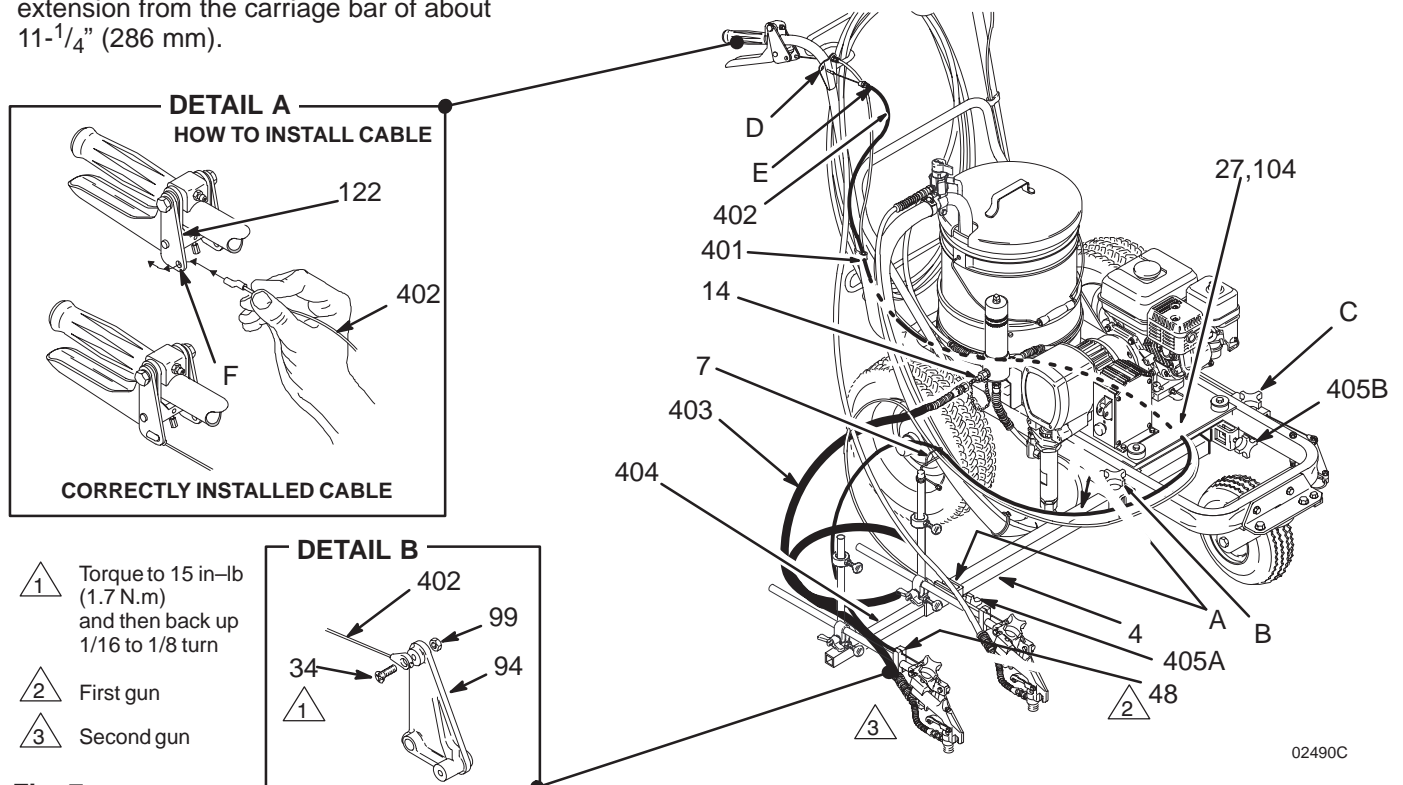

Fig. 7
NOTE: Fig. 7 represents the installation at Step 3.
1. Disengage the trigger cable from the block (48) of the unit's existing gun. See page 21. Engage the gun's trigger safety latch.
2. Loosen the carriage clamps (B, C). Slide the carriage bar (4) off the cart.
3. For mounting the second gun bar on the pump side of the cart: Slide a clamp (405A) onto the carriage bar (4). Slide the carriage bar through the pump-side carriage clamp (B) and into the center of the cart. Now slide another clamp (405B) onto the carriage bar. See Fig. 7.
6. Disconnect the trigger cable from the second gun at the screw (34). See Fig. 7 DETAIL B.
7. Unscrew the filter's second outlet cap (14). Screw the short hose (403) onto the filter nipple.
8. Remove the guide clamp screw (27).
9. Snap the cable bushing (E) into the guide plate (D). Route the trigger cable (402) parallel with the main gun cable, separating the guide clamp (104) to feed the cable through it. Install and tighten the clamp screw (27). Route the cable through the cable guide (7) and to the second gun.
10. Slide the hooked end of the cable (402) through the hole (F) in the lever plate (122). Rotate and slide the hook back until it engages the plate. See DETAIL A.
11. Reconnect the trigger cable to the second gun at screw (34). Torque the screw to 15 in-lb (1.7 N.m), back it off 1/16 to 1/8 turn and then tighten the jam nut (99) while holding the screw (34). Be sure the plate (94) moves freely.
12. Install the clip (401) to hold the cable onto the frame.
13. Connect both trigger cables to the blocks (48). Then adjust the cable tension. See pages 20 and 22.